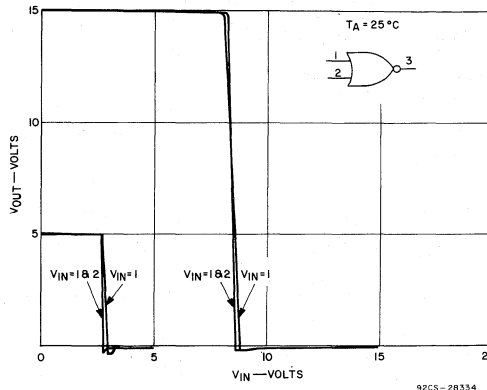

Fig. 5 — Voltage transfer characteristics of a buffered 2-input NOR gate (CD4001B).
—Buffered—The buffered 2-input NOR gate voltage-transfer characteristics, Fig. 5, are squared because of the gain of three CMOS stages from input to output. Fig. 5 shows that noise voltage inputs of ±1.5 V at VDD = 5 V and ±4 V at VDD = 15 V will have little discernible
—Unbuffered—Fig. 6 shows the rounded voltage-transfer characteristics of the 2-input unbuffered NOR gate. Also evident is the shift in the transfer curve for the different logic input states. Compare these curves to those of Fig. 5 and the effects of the non-buffered inputs as well as the gain differences are evident. The rounded characteristics require a noise-immunity specification of ±20% of VDD at 5, 10 and 15 V as well as a reduced noise margin: 0.5 V at VDD = 5 V and 1.0 V at VDD = 15 V.
**Noise Immunity**—Table III shows the detailed input-voltage data-sheet specifications for buffered and unbuffered gates. From these test conditions the user-oriented noise-immunity and noise-margin data of Table II are derived. Also refer to Figs. 5 and 6 for the voltage-transfer characteristics that illustrate the reason for the different input-voltage-specification requirements for buffered and unbuffered devices.